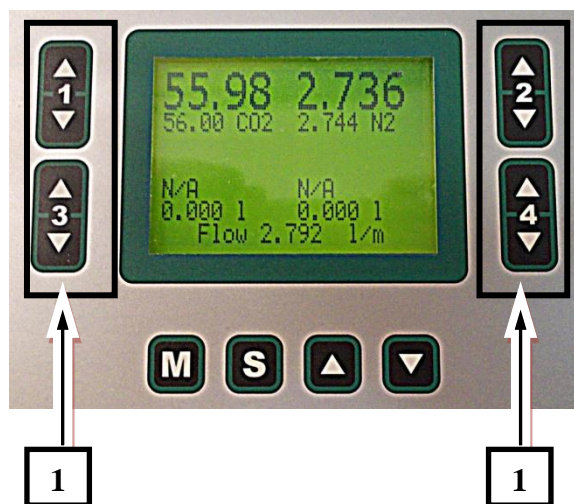

Fig. 20 Display Absolute Mode
- The target values for the single valves are set by four “**UP/DOWN**” keys situated at both sides of the screen. The keys are used to change actual gas flow in corresponding valves (UP/DOWN = add/subtract). The keys are numbered 1 – 4 (see the picture below Fig. 20).
Example from Fig. 20 –
The absolute target flow is computed as a sum of valves flow (Fig. 20).